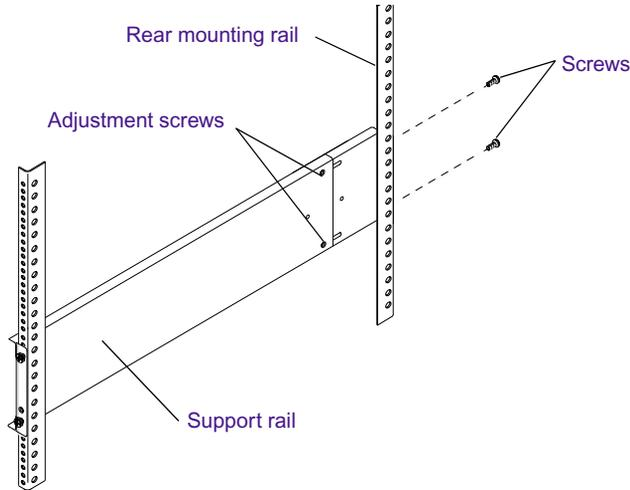

Figure 48 Attaching the MediaDock Ultra320 Rails to the Rack Back Mounting Rails
8. Loosely attach the rear of the support rail to the rear mounting rail with the two pan-head screws in the top and the bottom holes (see Figure 48).